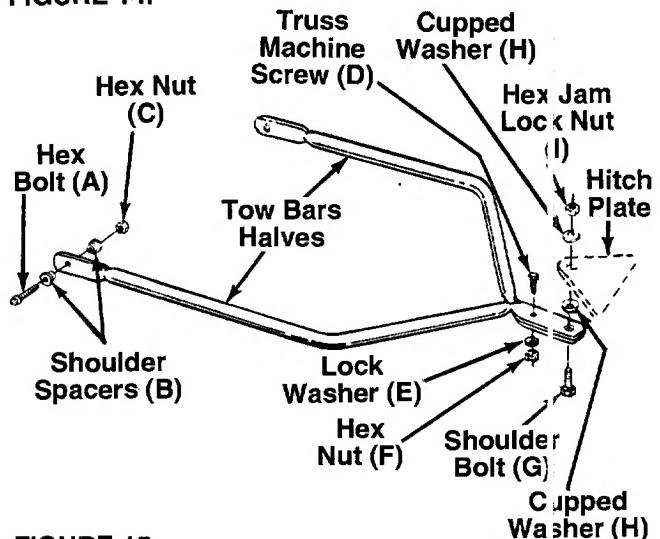

FIGURE 15.
2. Place one bar half in position on frame of vacuum. Place one shoulder spacer (B) between frame and tow bar. Next, place shoulder spacer (B) and hex bolt (A) through tow bar and frame. Secure with hex nut (C). See figure 15. Repeat on other side.
3. Secure the two tow bar ends together with truss machine screw (D), lock washer (E) and hex nut (F). See figure 15.
To attach the tow bar to a hitch, place the shoulder bolt (G) up through the tow bar. Place one cupped washer (H) on the shoulder bolt, then the hitch plate and the other cupped washer. Cuffed side of the washers must be against the hitch plate. Secure with hex jam lock nut (I). See figure 15.